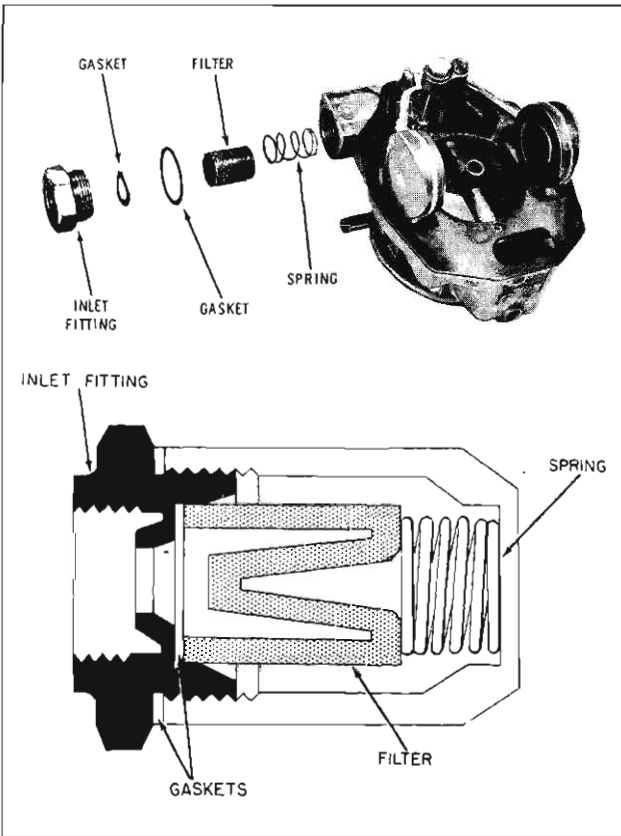

Fig. 4-110 Fuel Inlet Filter
1. Remove fuel filter inlet nut and gasket. Then remove filter, filter spring and gasket between filter element and back side of inlet nut. (Fig. 4-110)
NOTE: Large open end of filter element always faces the fuel inlet nut. (Fig. 4-110)